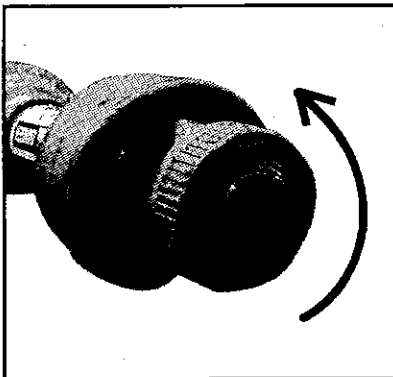

FIG. 4 - TWIST COLLAR FOR
STEP 5 Make sure the tractor engine is shut off and tractor key is in your pocket, then connect the driveline to the tractor PTO. The twist collar locks the driveline onto the tractor. Twist the collar and slide the yoke onto PTO. (Refer to Figure 4.) When collar twists back to its original position, driveline is locked in place. With a solid tug, confirm the connection. Adjustments to chipper, three-point hitch, or PTO shaft may be needed for proper fit. Make recommended adjustments as instructed in STEP 6. If adjustments to the three-point hitch or chipper does not gain necessary clearances, shaft will need to be shortened as instructed in STEP 7.